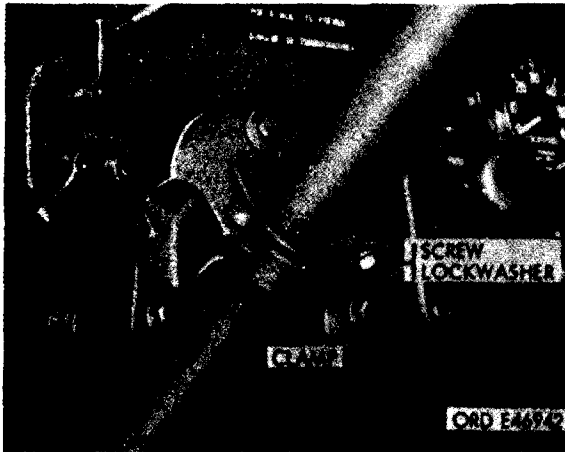

Figure 178. Steering column clamp.
(2) Remove hood and fenders (par. 31).
(3) Remove screw and lockwasher and open steering column clamp at instrument panel (fig. 178).
(4) Remove screws securing steering column dust cover to cowl.